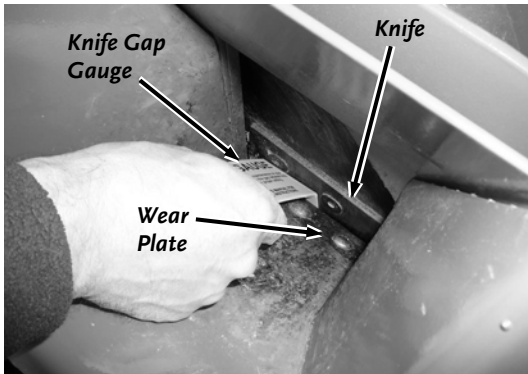

Figure 37
3. Slide the Knife Gauge in between the Knife and Wear Plate to check the clearance (**Figure 37**).